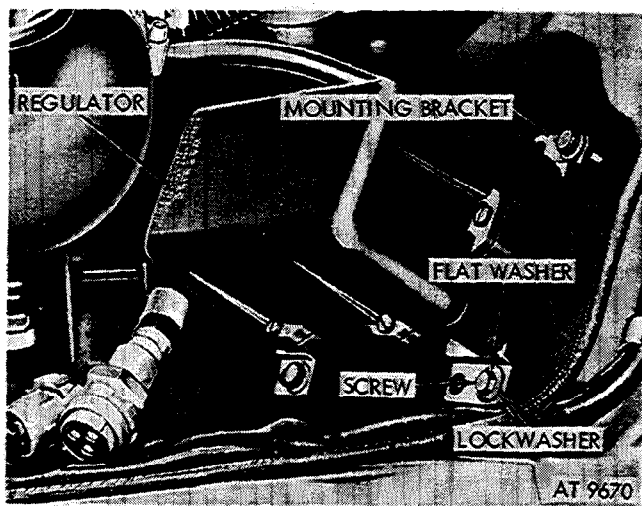

Figure 2-177. Remove generator regulator with mounting brackets attached.
(4) Remove four mounting screws, lockwashers and flat washers and remove generator regulator with mounting brackets attached (fig. 2-177).
*b. Installation.* Install generator regulator by reversing removal operation figure 2-177 back to 2-175.